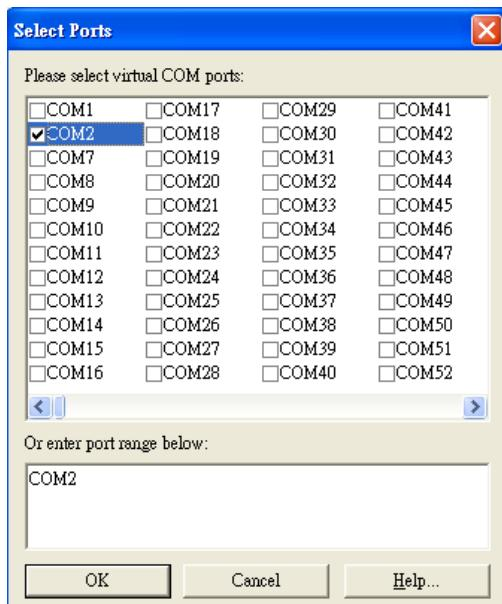

Figure 6.3
- In the Windows notification area, Figure 6.3; right click in the Serial/IP tray icon and click on **Configure** to open the Control Panel.